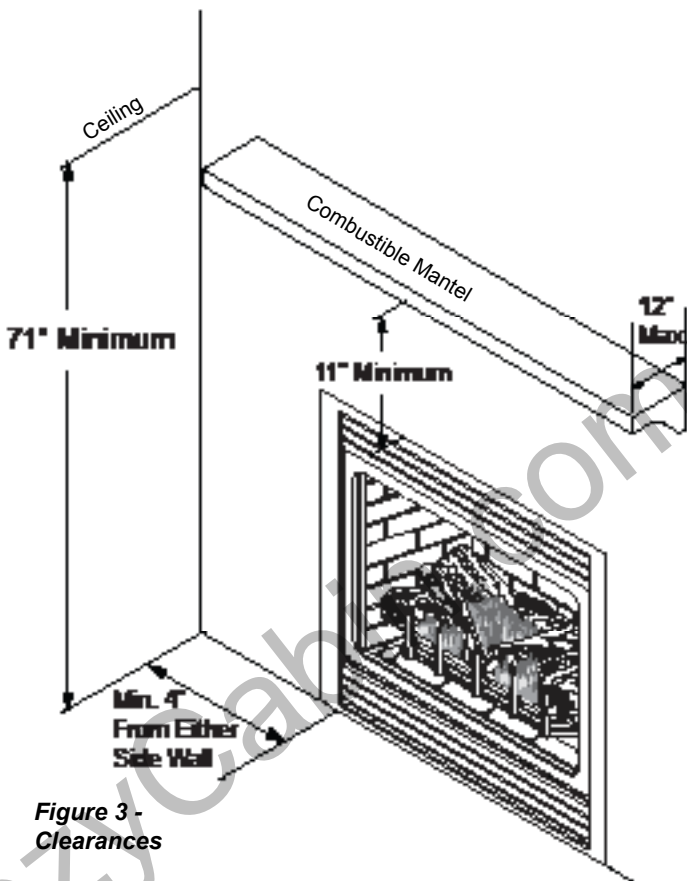

Figure 3 - Clearances
- This fireplace may be installed along a wall, across a corner, or use an exterior chase. Refer to *Figure 3* for suggested locations.